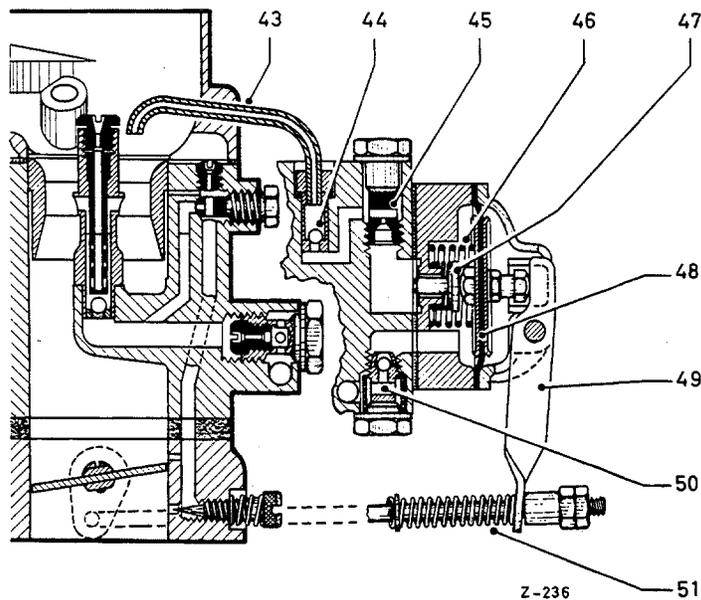

Fig. M 31 S/017
An additional ball valve (polyamide ball) has been incorporated in the mixing tube holder of Stage 1. This ball valve (43) is designed to prevent the engine from stalling even when the brakes are applied suddenly (see Fig. M 31 S/016). When the vehicle is in motion, the polyamide ball is raised from its seat by the fuel emerging. If the accelerator is released, the throttle of Stage 1 closes and the polyamide ball falls back onto its seat because there is no longer any depression at the mixing tube holder. The polyamide ball now prevents air from penetrating into the idle system when the brakes are suddenly applied. This therefore prevents the engine from stalling, as it otherwise would because the fuel flows back into the float chamber at the front by virtue of the inertia.
The accelerating pump used is a so-called "neutral" pump, i. e., the engine can draw in fuel via the injection tube according to the degree of depression prevailing in the intake manifold. The accelerating pump (Fig. M 31 S/017) is a mechanically-operated diaphragm pump which is connected to the throttle of Stage 1 by means of an adjustable lever-linkage. When the accelerator is depressed, the diaphragm pump sprays extra fuel into the mixing chamber of Stage 1. By virtue of this additional injection, a smooth speed build-up and good acceleration is achieved. When the accelerator is depressed, the pump arm (49) is moved by means of the connecting rod (51). The pump arm in turn presses on the diaphragm (48) and in consequence, the fuel which is in front of the diaphragm is injected via the plate valve (47), the pump jet (45), the ball valve (44) and the injection tube (43) into the mixing chamber of Stage 1. The aperture of the injection tube takes the form of a precision bore of 0.8 mm  $\phi$ .